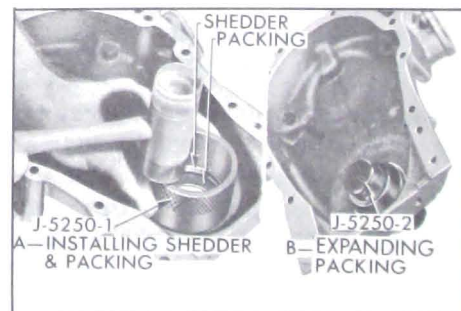

Figure 2-27—Installing Crankshaft Oil Seal
2. Work new packing into the shedder, then drive shedder into recess in timing chain cover, using Installer J-5250-1. See Figure 2-27, View A.
3. Push Packing Expander J-5250-2 through the seal to expand the packing into place and size the opening for the crankshaft. See Figure 2-27, view B. Apply a light coat of vaseline to the packing.